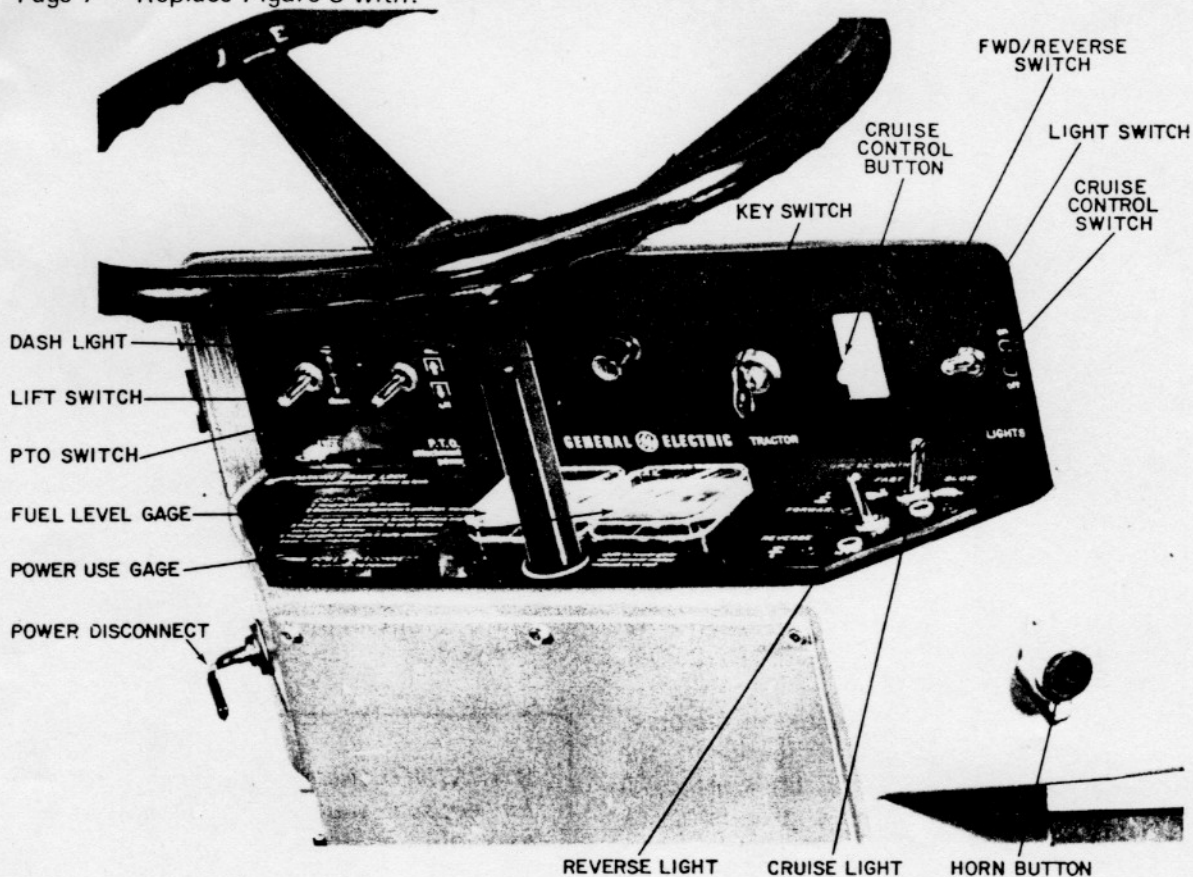

Figure 5. Control Panel
F. Page 7 — Replace Figure 5 with: